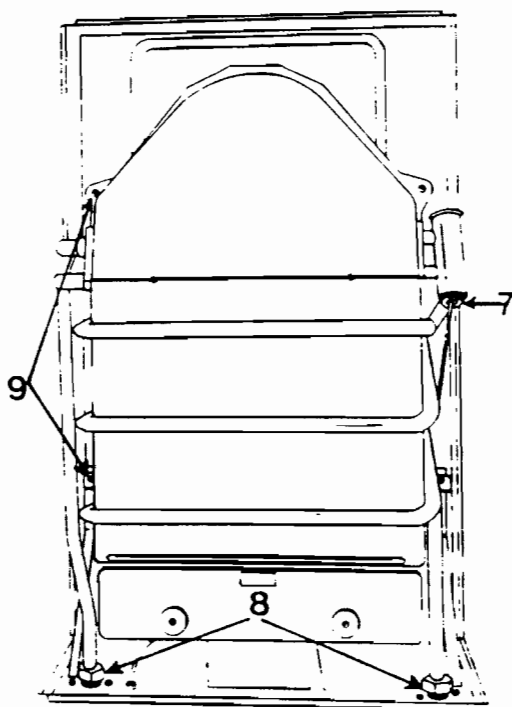

FIG. 2
Release two union connections at (8) Fig. 2.
Remove four screws at (9) Fig. 2.